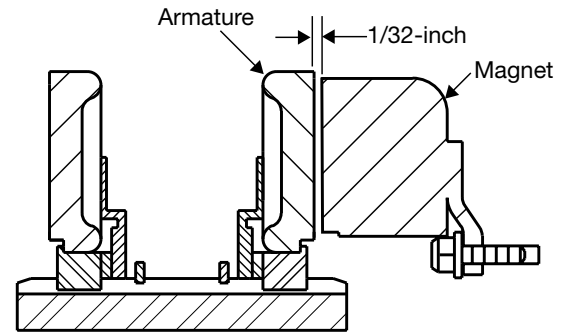

Figure 7
4. Check the assembly by pressing the armature into contact with the magnet face and then releasing it. The armature should spring back about 1/32-inch. This gap will be automatically maintained for the life of the unit. (Figure 7)